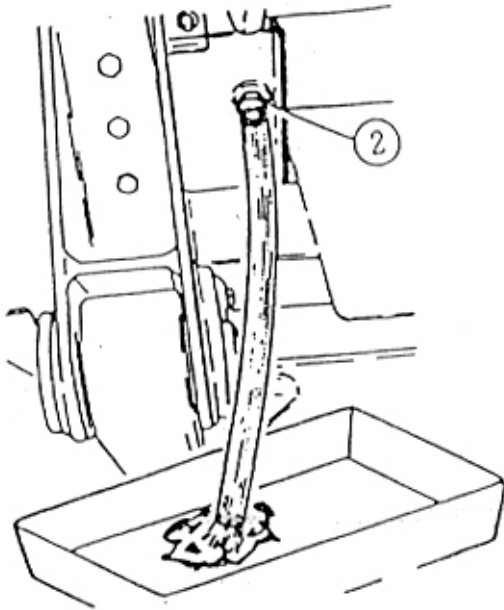

Fig.36
4. Loosen the nut (Fig 36/2) on the bottom side of the tank by a few turns and let oil drain into a container. Screw the nut if oil is drained off.
Remark: Place hose over the nut (Fig 36/2) to control the oil draining.
5. Fasten the nut (Fig 36/2)